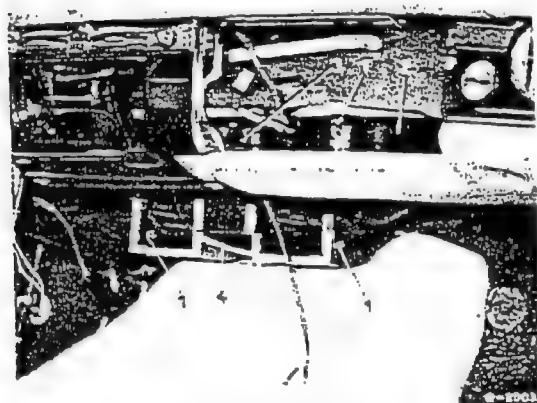

Fig. 83-2/13
3. Unscrew the left and right cap (2) from the radial blower (4) and remove (screws (1) shown in Fig. 83-2/13).